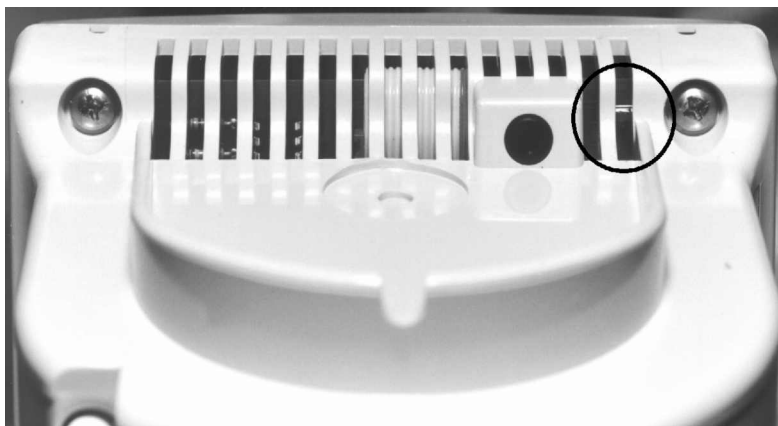

Figure 7.9 Showing Location of the Production Test Button
5. Turn the humidifier upside down; use a non conducting tool to hold the production test button down. This button is accessible through the right air vent slot (when looking at the rear of the humidifier). See Figure 7.9.